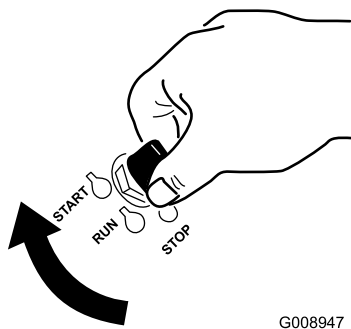

Figure 19
6. Turn the ignition key to the Start position (Figure 19).